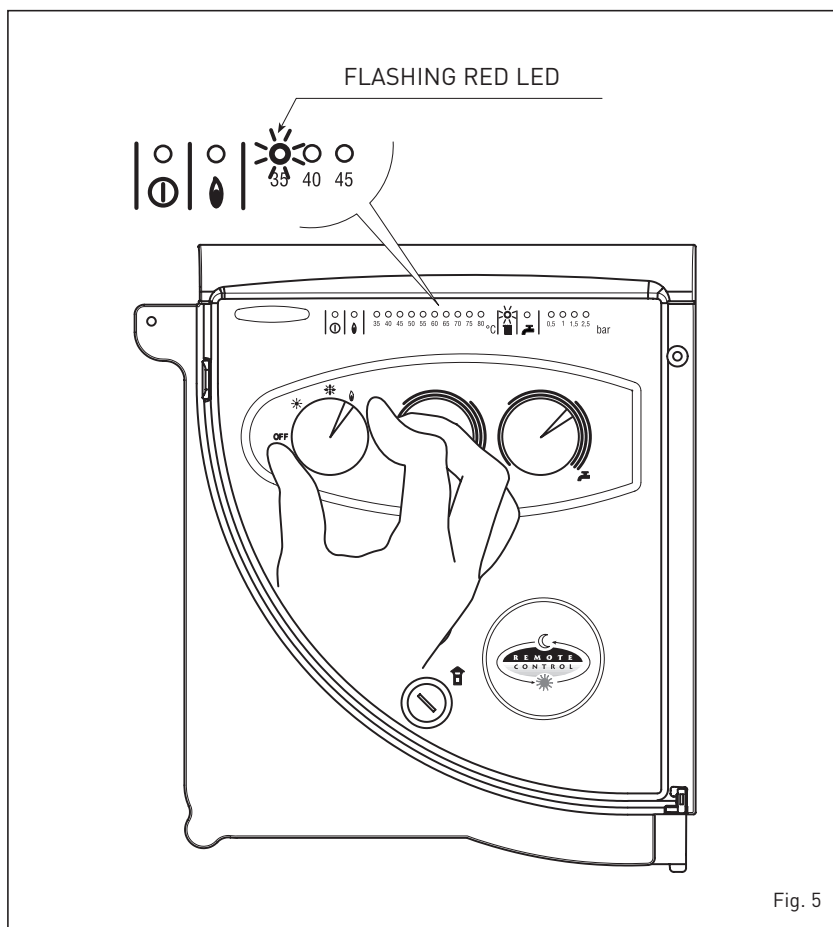

Fig. 5
– **Safety stat interception** (fig. 5)